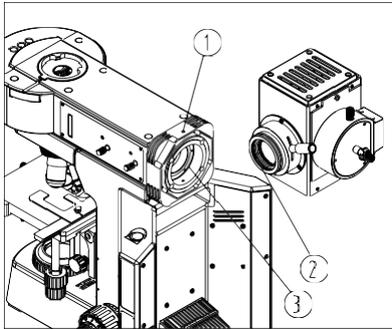

Fig. 9
- (1) Loosen the lock-screw ① completely on the fluorescence illuminator. (See Fig. 9)
- (2) Push the light source holder ② into the holder ③ on the fluorescence illuminator to the bottom. Make the upper plane of the light source group to be horizontal and lock the screw ①.